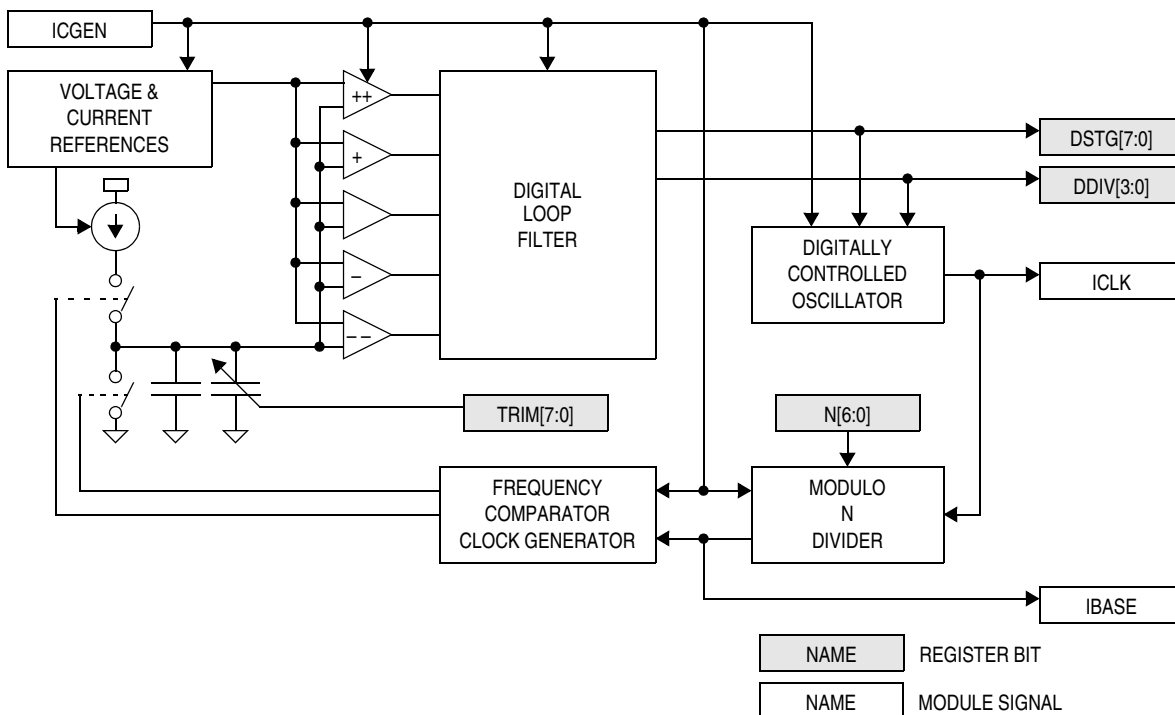

Figure 6-2. Internal Clock Generator Block Diagram
The internal clock generator, shown in Figure 6-2, creates a low-frequency base clock (IBASE), which operates at a nominal frequency (f_{NOM}) of 307.2 kHz \pm 25 percent, and an internal clock (ICLK) which is an integer multiple of IBASE. This multiple is the ICG multiplier factor (N), which is programmed in the ICG multiplier register (ICGMR). The internal clock generator is turned off and the output clocks (IBASE and ICLK) are held low when the internal clock generator enable signal (ICGEN) is clear.